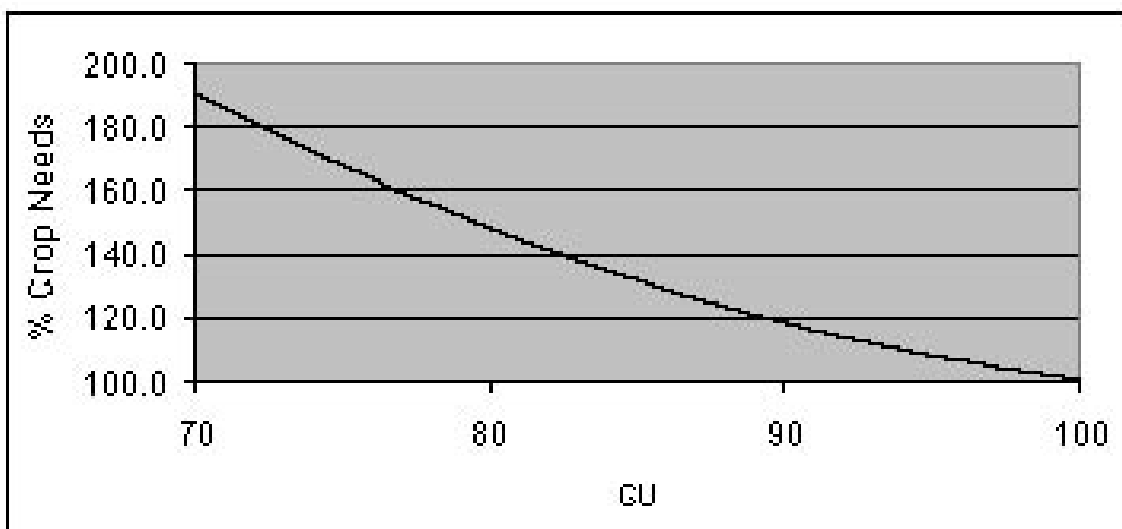

Figure 1. Water needed, as a percentage of crop needs, to maintain different values of uniformity in a field kept 85-90% well irrigated.
We believe that precision irrigation implies that we need to design the irrigation system to apply water as uniformly as practical, then to operate the system to apply just the amount of water the crop needs. We are presently conducting studies on the same center pivot irrigated fields as our colleagues at Colorado State, and I will use information from those studies to illustrate the importance of uniformity. In the past, irrigation engineers believed that a system capable of applying water with a “coefficient of uniformity” (CU) equal to 80 was a good system. However, we now know that we pay dearly in terms of water required, and consequently in terms of both energy and lost chemicals, if we have an irrigation system with low uniformity and we try to keep most of the field “well irrigated.” Figure 1. shows how much water